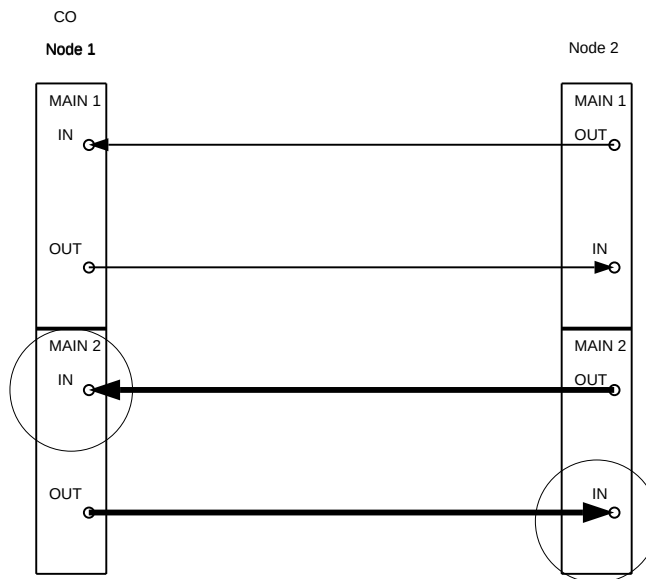

Figure 1. DDM-2000 OC-3 Point-to-Point to Ring Upgrade
10. At Node 1 and Node 2, use the **switch-line:main:pri=manual** command to switch to the protection line. Use the **rtrv-state-eqpt:main-all** command to check switch state (main-2 OLIU active). (See Figure 1.)